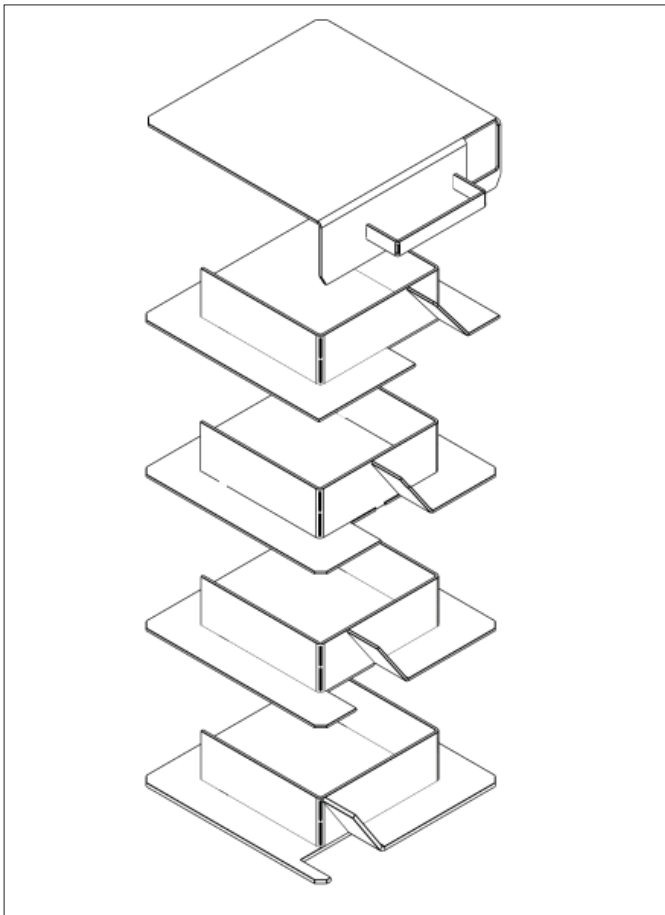

Figure 11-1: Euroflame 15/26kW baffles
4. Remove the baffles as shown in Figures 11-1 to 11-5.
8. Refit the baffles, ensuring they are correctly located. Refer to Figures 11-1 to 11-5, as appropriate. Pull out the spiral turbulators from the heat exchanger tubes. See Figure 10-4.